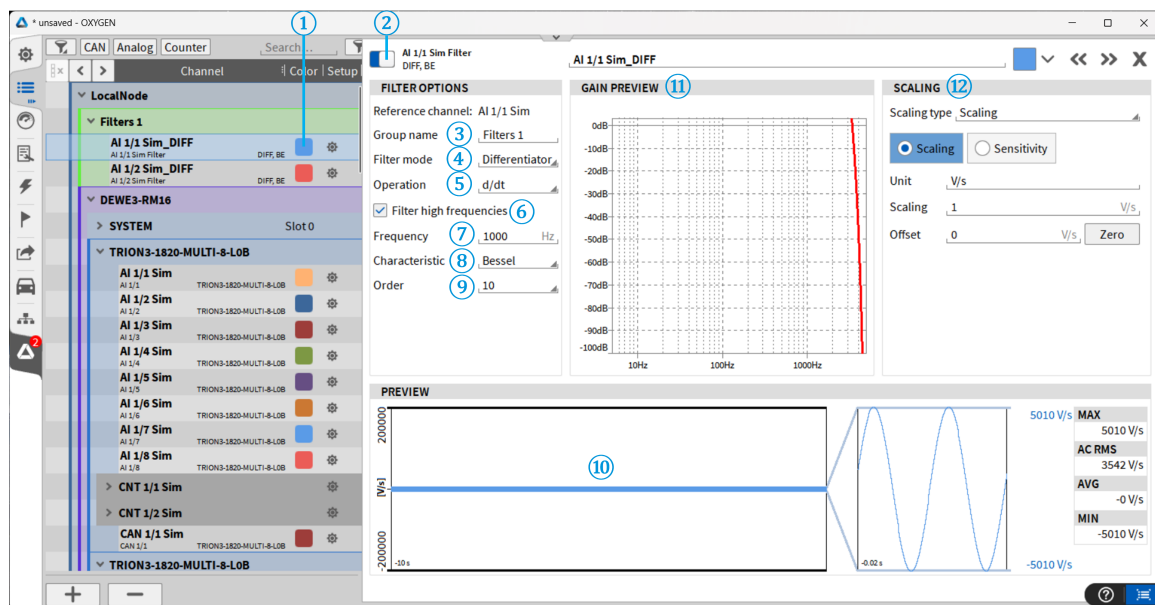

Fig. 7.91: Filter channel setup - overview
- After pressing enter, the channel will appear in the *Data Channels* menu. The defined channel parameters can be changed afterwards in the Channel Setup (see Fig. 7.91).